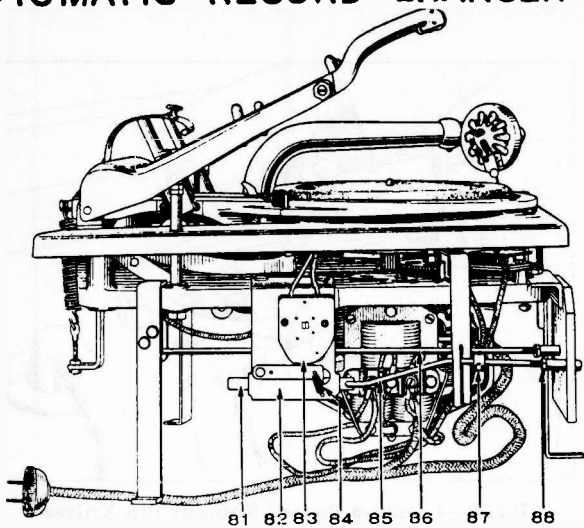

Fig. 12—Automatic Unit Side View
- a. Note that the condition is not caused by a wire between the reject rod collar 87, Fig. 12, and the fork portion of the trip lever.
- Start switch position 83, Fig. 12, out of adjustment, preventing switch slide 81, Fig. 12, from tripping switch.
- Defective start switch 83, Fig. 12.